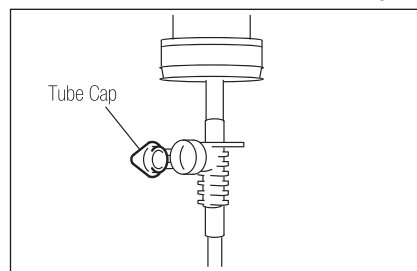

Fig. 14
3) Open the Tube Cap to supply air into the bottle. (Fig.14)